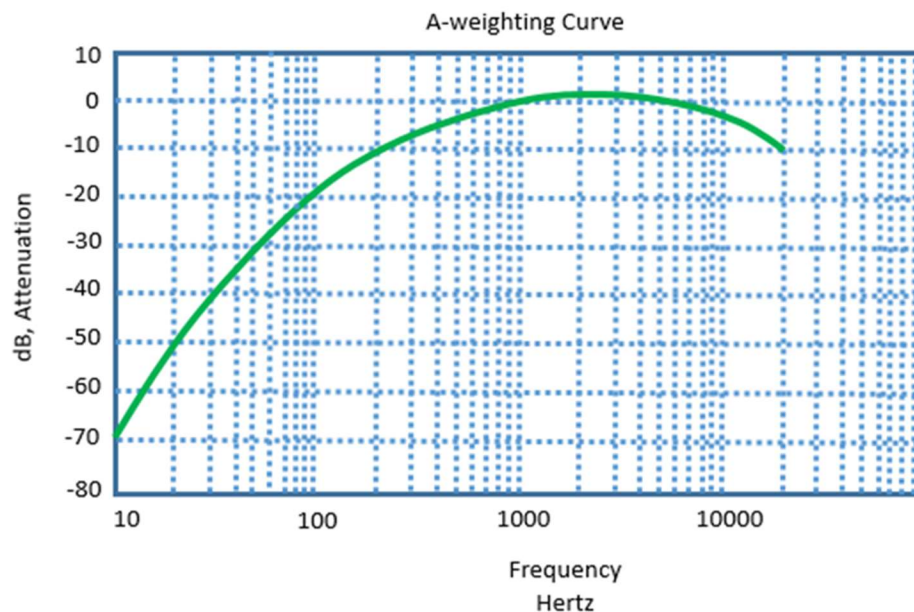

Figure 4: A-weighting filter frequency domain shape. Y-axis is gain or attenuation in dB versus X-axis in frequency.
- A-Weighting – An A-weighting filter (*Figure 4*) is used on microphone data to introduce characteristics of human hearing into the microphone recording. A microphone “hears” all frequencies equally well, but the human ear does not. The A-weighting filter reduces the high and low frequencies of a microphone signal to reflect how the human ear perceives sound.